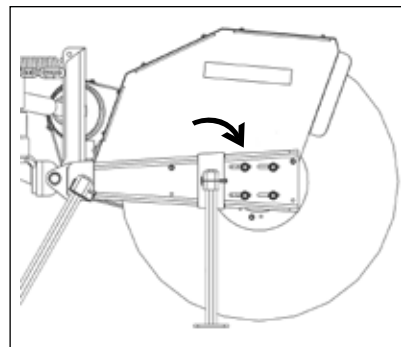

figure 4
1. Loosen 4 carriage bolts holding each assembly (figures 4 and 5).